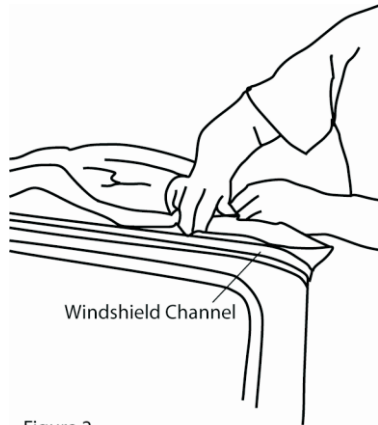

Figure 2
**Step 7.** Insert front plastic into the groove of the Windshield Channel. The ends will match nearly to each end of the Windshield Channel. From the front of the vehicle, check to make sure that the top is even from side to side. Check the door surround sides and push the top towards the rear to make sure the fabric is seated tightly around the front corners. See Figure 2.